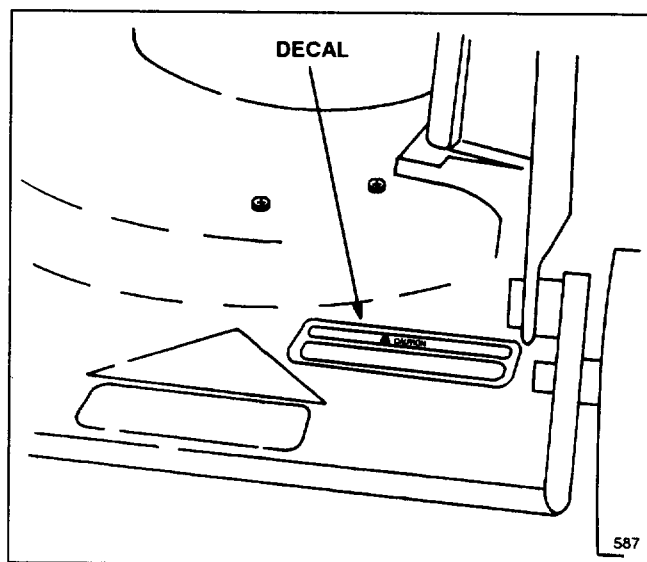

Figure 16
1. Install new decal (P/N 92-8084) on rear of mower deck, behind discharge tunnel (Fig. 16).